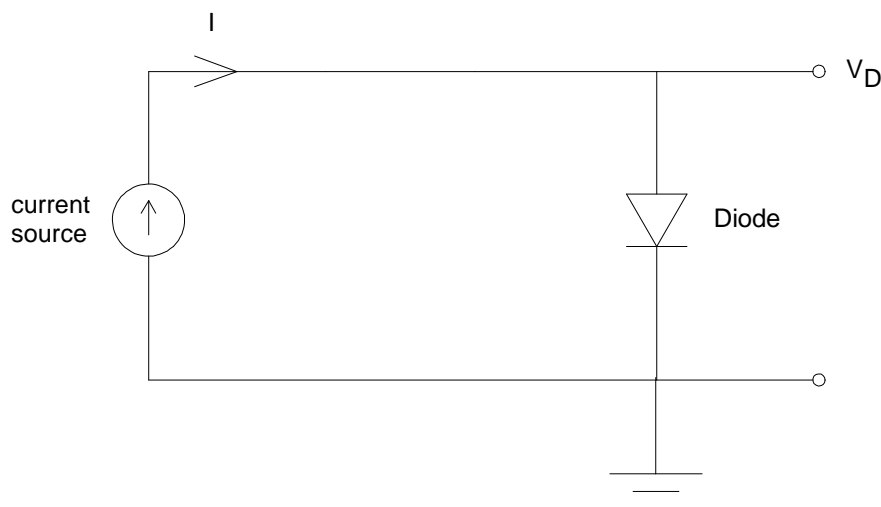

Figure 5: Diode circuit used to measure temperature.
1. First you will need to set up the temperature measurement circuit of Fig. 5. While still at room temperature, measure the diode voltage with a diode current of  $\approx 100 \mu\text{A}$ . The exact value of this current is not very important, but it must be the same for all of your measurements.